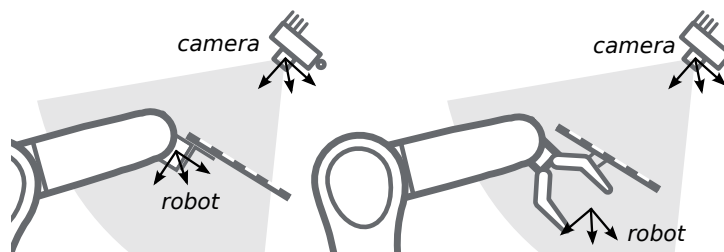

Fig. 6.19: Alternate mounting options for attaching the calibration grid to the robot
**Calibration with a statically-mounted camera** In use cases where the camera is positioned statically w.r.t. the robot, the calibration grid needs to be mounted to the robot as shown for example in Fig. 6.18 and Fig. 6.19.
**Note:** The hand-eye calibration module is completely agnostic about the exact mounting and positioning of the calibration grid w.r.t. the user-defined *robot* frame. That means, the relative positioning of the calibration grid to that frame neither needs to be known, nor it is relevant for the calibration routine, as shown in Fig. 6.19.